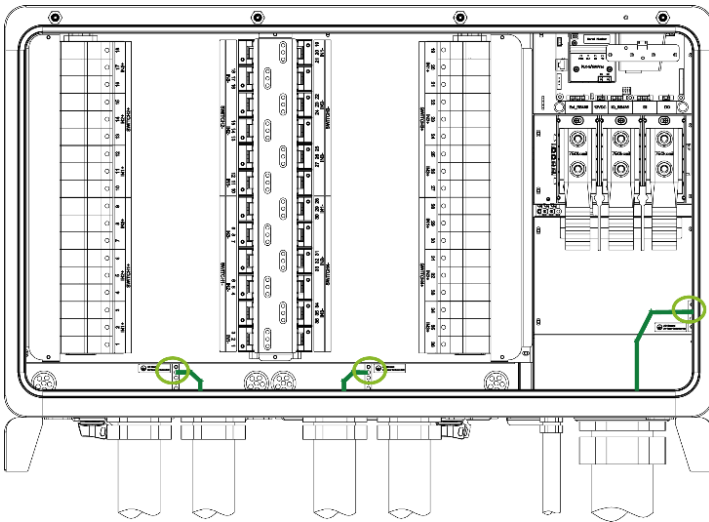

Figure 4-5 Internal DC and AC Ground Terminals
- Connect two internal DC grounding terminals (in the middle) and one AC grounding terminal (on right side) as shown in Figure 4-5, or